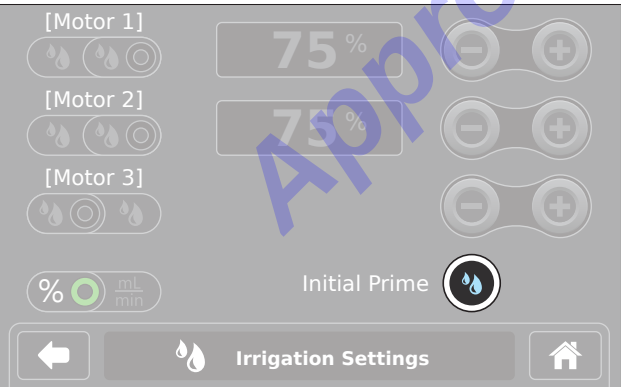

Figure 18 – Irrigation Settings (Initial Prime)
2. Touch (Initial Prime) to prime the irrigation cassette (Figure 18).